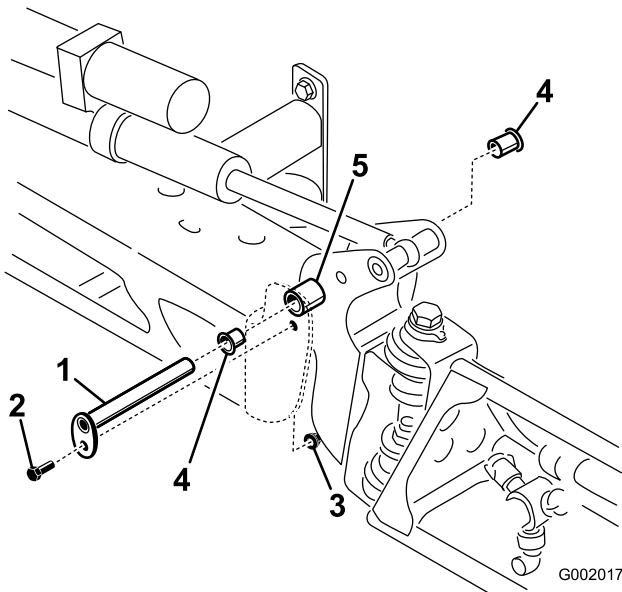

Figure 21
- With the weight of the boom supported, remove the bolt and the nut securing the pivot pin to the boom assembly (Figure 21).
- Remove and inspect the nylon bushings from the front and back sides of the pivot bracket (Figure 21).
- Install the boom and pivot bracket assembly into the center frame, aligning the openings (Figure 21).